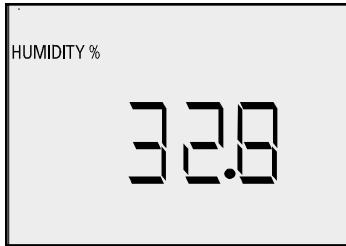

Figure 3
- 5.2.3 Relative Humidity level in % is displayed. (Fig. 3)